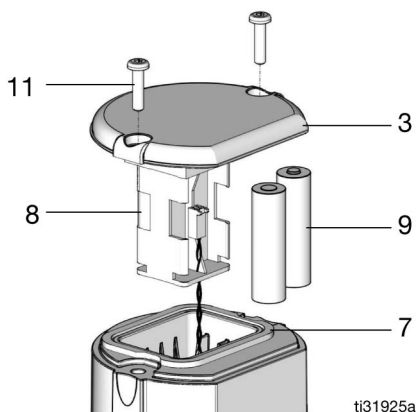

FIG. 10
1. Remove the two screws (11) and the cover (3) (FIG. 10).
2. Carefully pull the battery holder (8) just far enough out of the TLM to install the batteries (FIG. 10).